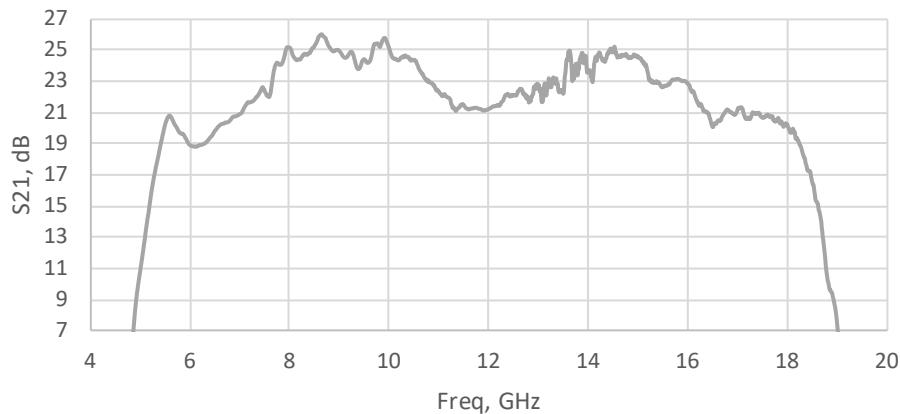

Figure 4-3. Typical Response: Input A4 – Front Panel RF Output
8. Remove the coaxial cable from the output of the A1 Preamplifier to the input of the A4 20-watt module. The typical response from the input of the A4 20-watt module to the RF output connector on the unit's front panel is shown in Figure 4-3.